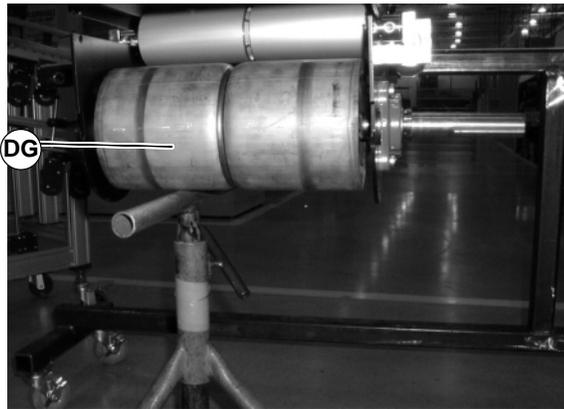

Figure 98
8. Temporarily support the drive pulley (DG of Figure 98).